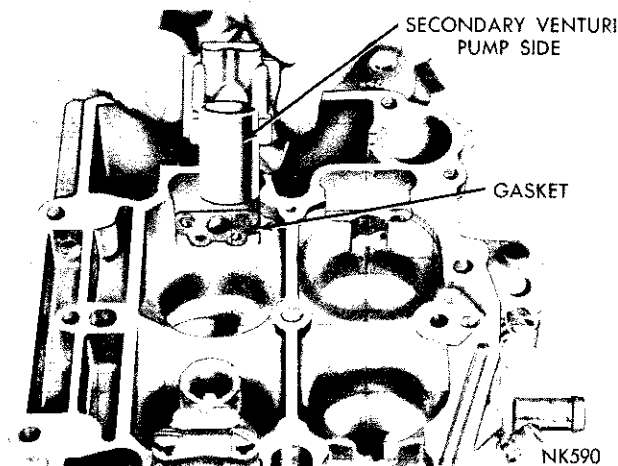

Fig. 6—Removing or Installing Secondary Venturi Cluster
(5) Remove the screws that attach the secondary venturi (choke and pump side) to the main body. Lift the secondary venturi assemblies straight up and away from the body, as shown in (Fig. 6).
(6) Using Tool T109-59, screw driver bit, remove the accelerator pump intake check valve located inside the fuel bowl, adjacent to the accelerator pump cylinder.
(7) Remove the two idle mixture adjusting screws and springs from the throttle body portion of the main casting.